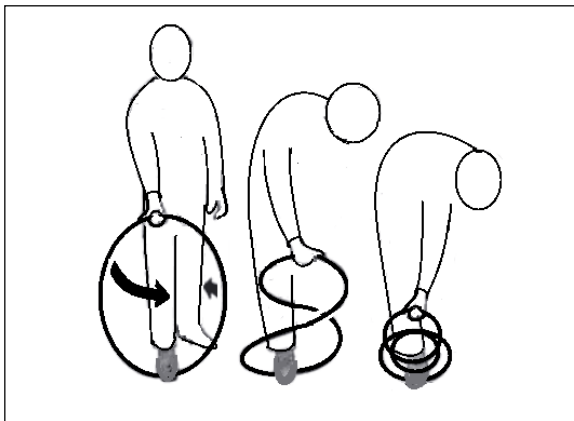

Fig 50
- Hold the bandsaw blade in one hand. Let it hang down vertically and hold it to the floor with a foot. Turn your hand through 360°, a complete circle, as you move it down towards the floor (Fig 50).